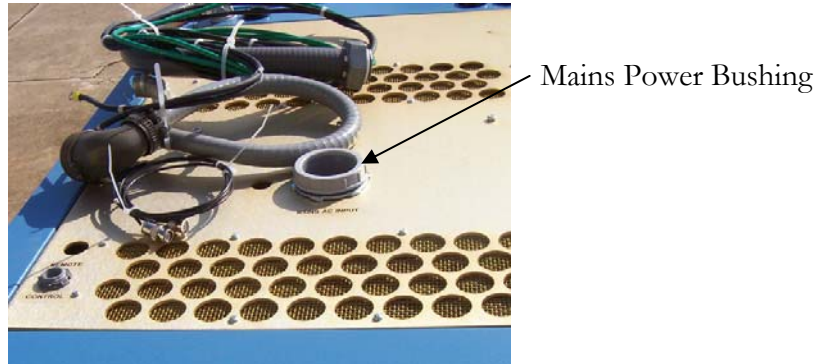

Figure 2-9
- 2.5.2.4 Route the mains power cables through the supplied bushing in the top of the PS cabinet. Connect the main power wires to Mains Terminal Block PS-TB1. Connect a phase to each terminal and ground to the green ground terminal (Figure 2-9 & 2-10).